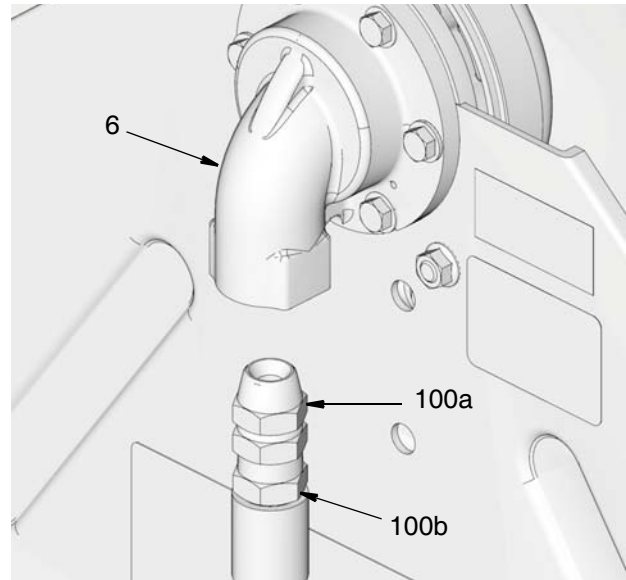

FIG. 50
- a. If union adapter (100a) is not installed on inlet (6), apply pipe thread sealant or wrap PTFE tape around the threads of a union adapter (100a) and install union adapter on inlet (FIG. 50).
- b. Apply pipe thread sealant or wrap PTFE tape around the threads (6) of inlet hose (100b) (if needed).